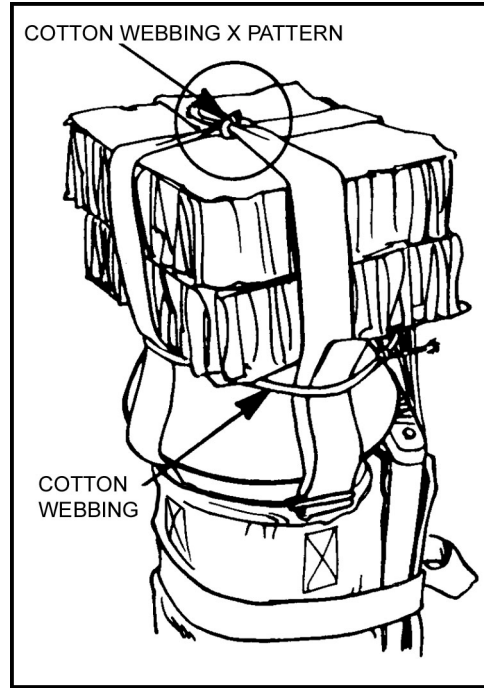
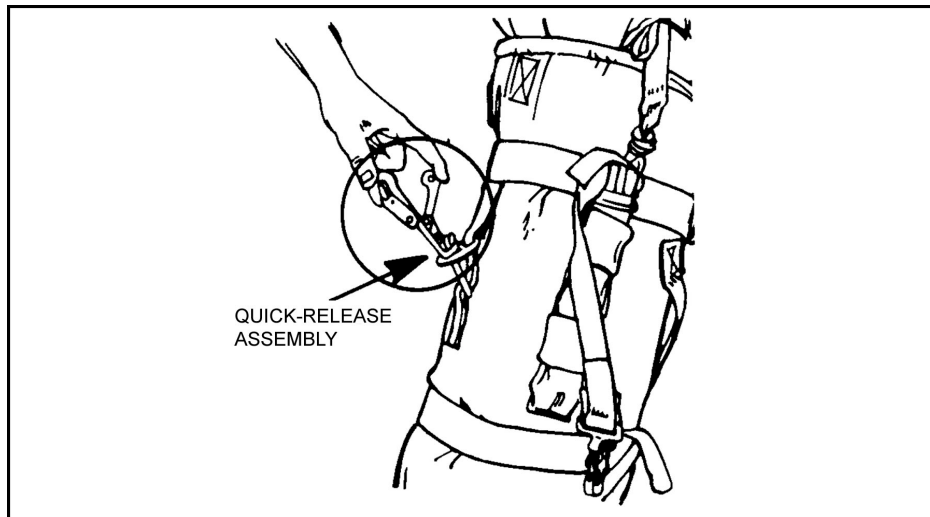

Figure 12-37.
Figure 12-38. Quick-release assembly.
(4) Position the DMJP on the aft end shock absorber and retighten the launcher forward end securing straps using quick-release folds. All excess on the securing straps are folded back under the corresponding quick-fit adapter. Retighten one turn of 1/4-inch, 80-pound test cotton webbing in an X pattern around the launcher forward end securing straps, and tie securely with a surgeon's knot and locking knot (Figure 12-37).
(5) Tie one turn of 1/4-inch, 80-pound test cotton webbing around the launcher forward end, securing straps below the 9-inch square honeycomb. Tie in a surgeon's knot and locking knot to prevent the honeycomb from shifting.
(6) Position the DMJP on the honeycomb and tighten the launcher aft end bridle securing strap. Secure its running end by folding it back under the corresponding quick-fit adapter.
(7) Tighten the three horizontal securing straps as evenly as possible around the weapon(s).
- (8) Attach the quick-release assembly to the pack (Figure 12-38).